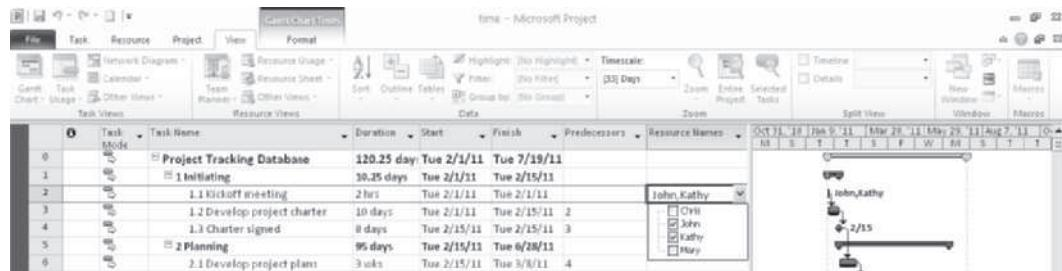

FIGURE A-40 Assigning resources using the Resource column
3. Select a resource from the Resource Names column. In the Resource Names column, click the cell associated with Task 2, **Kickoff meeting**. Click the cell's list arrow, and then click the checkboxes next to **John** and **Kathy** to assign them to Task 2, as shown in Figure A-40. Notice that the resource choices are based on information that you entered in the Resource Sheet. If you had not entered any resources, you would not have a list arrow or any choices to select. Click in another cell to see the entered resources in the Resource column and on the Task 2 Gantt chart symbol.